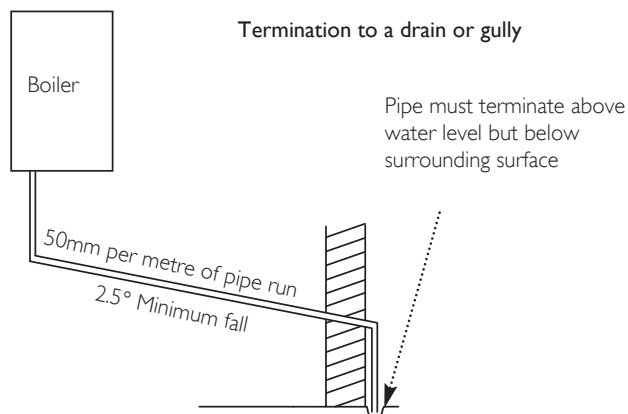

Fig. 15
- iii) to a drain or gully - Fig. 15